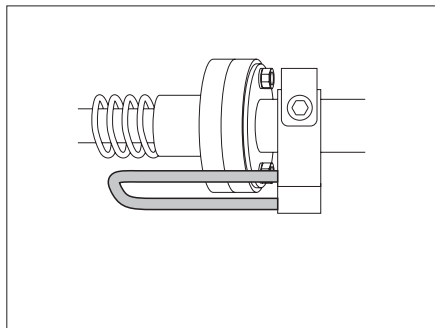

Fig. 94 Locking lever in the secured position
- Before using the bed check whether the locking lever is located in the secured position (Fig. 94).
- ▶ Set the locking lever to the secured position (Fig. 94).